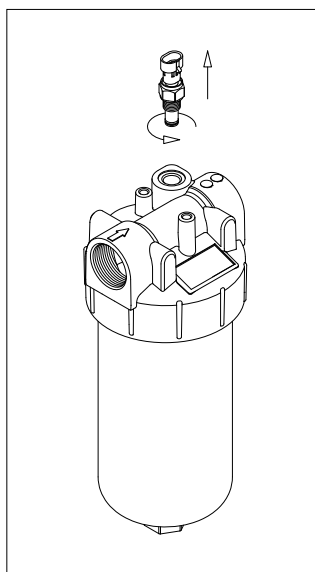

fig. 6
- (Fig. 6) Unscrew the indicator body.